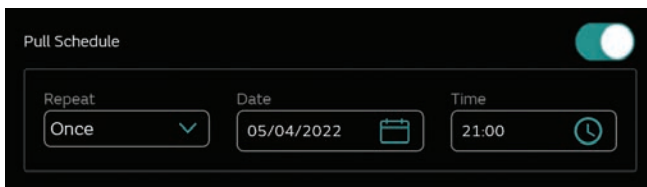

Figure 16. Scheduling for Pull
2. Tap Intervals to **select** the frequency, Once, Daily, Weekly, or Monthly (Figure 16).